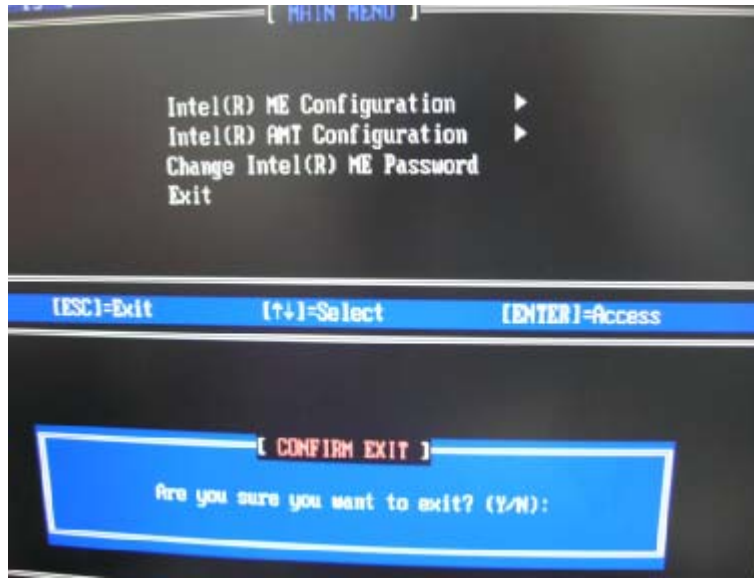

Figure 6-10: Exit
Step 16: To exit the Intel® MEBx, return to the main menu and select **Exit**. (**Figure 6-10**)